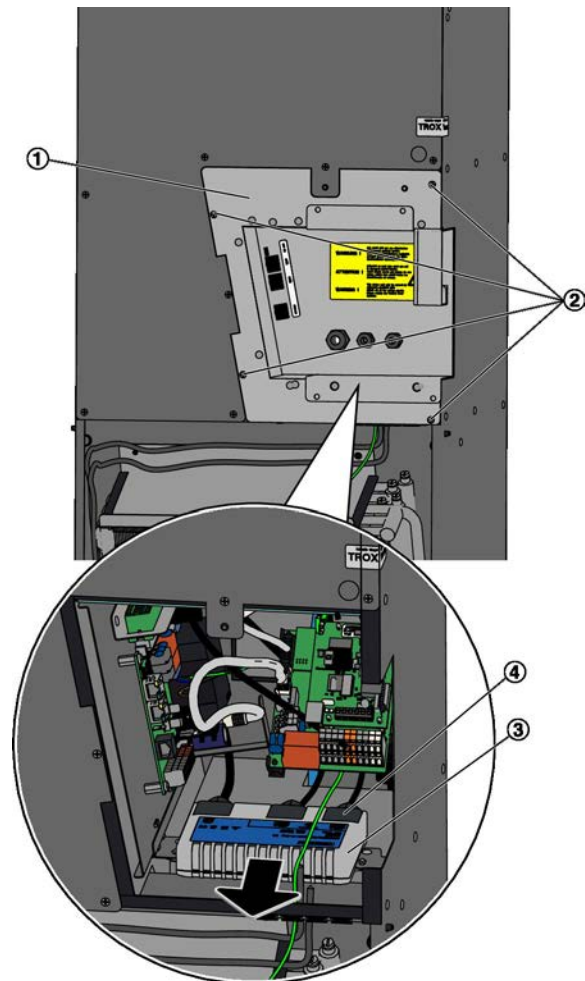

Fig. 32: Replacing the control module
3. ▶ Take off the controls access panel (Fig. 32/1); to do so, loosen the Phillips screws (Fig. 32/2), then remove the panel.
4. ▶ Pull out the control module (Fig. 32/3).
5. ▶ Disconnect the plug connections (Fig. 32/4) for the actuators; to do so, pull off the plugs from above.